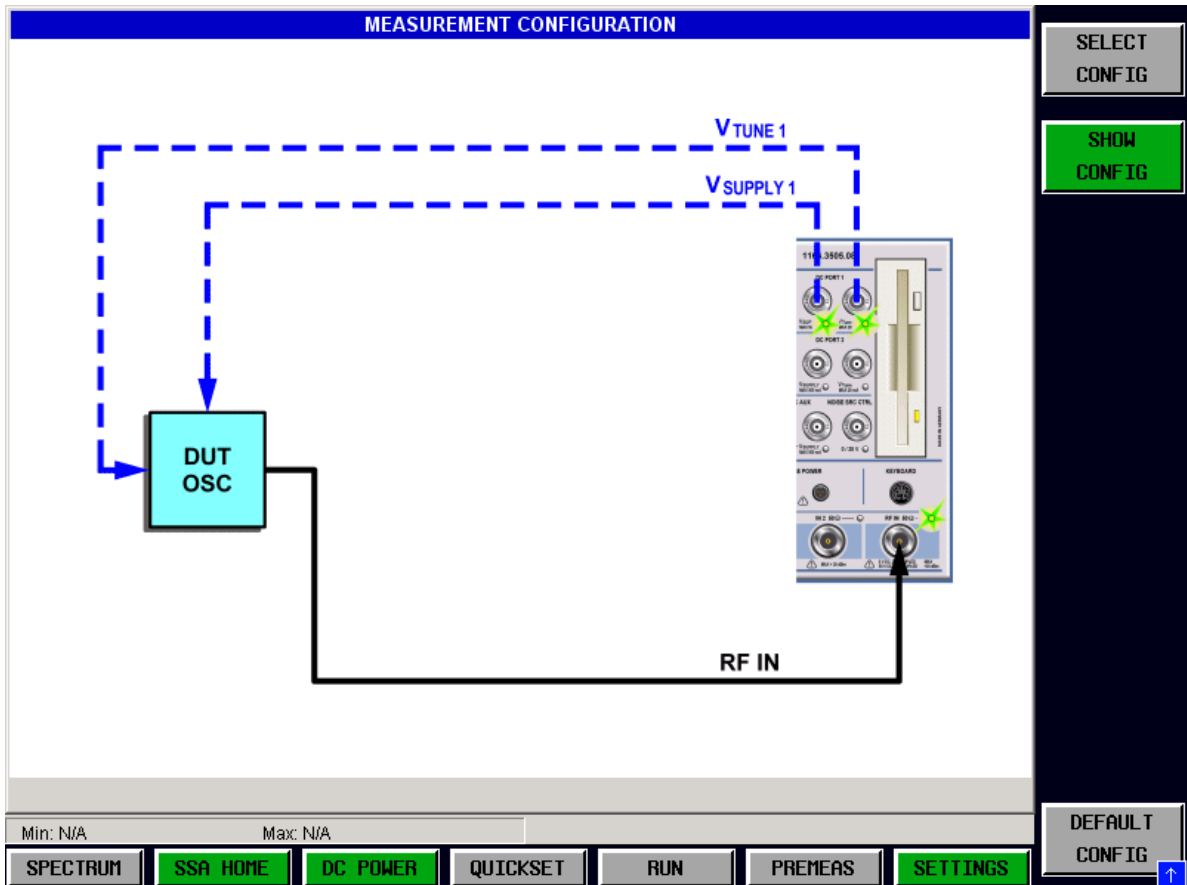

Fig. 5-5 Wiring diagram
As shown in Fig. 5-5, connect the RF output of the DUT to the RF input of the instrument. In addition, connect the DC supply voltage and tuning voltage of the DUT to the DC port 1 of the instrument.
- To display the schematic diagram for proper wiring, press the softkey sequence *SSA HOME - SELECT CONFIG - SHOW CONFIG* (see Fig. 5-5 on page 11).